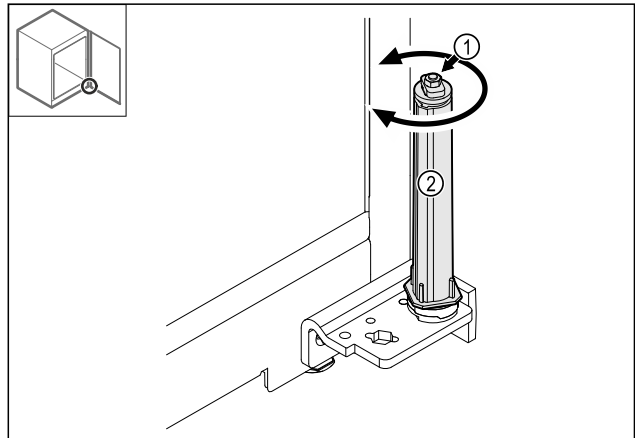

Fig. 40
- Do not dismantle the screw connection Fig. 40 (1) on the locking system.
- Turn the locking system Fig. 40 (2) until it clicks.